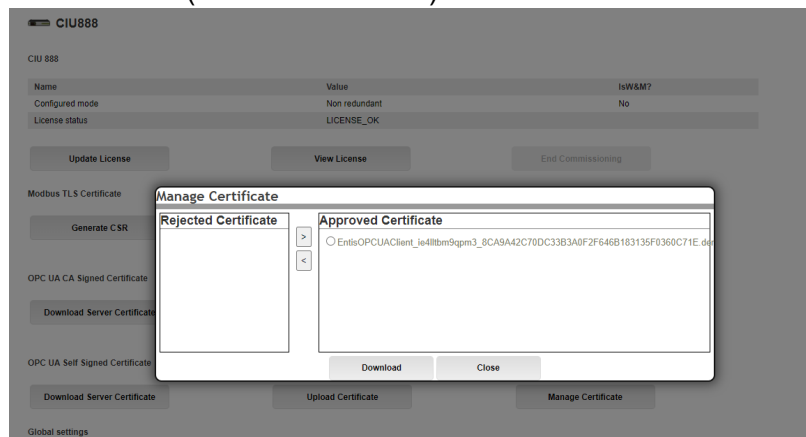

FIGURE 4-13
c) Select the certificate and move it to the **Approved Certificate** section.(see FIGURE 4-13)